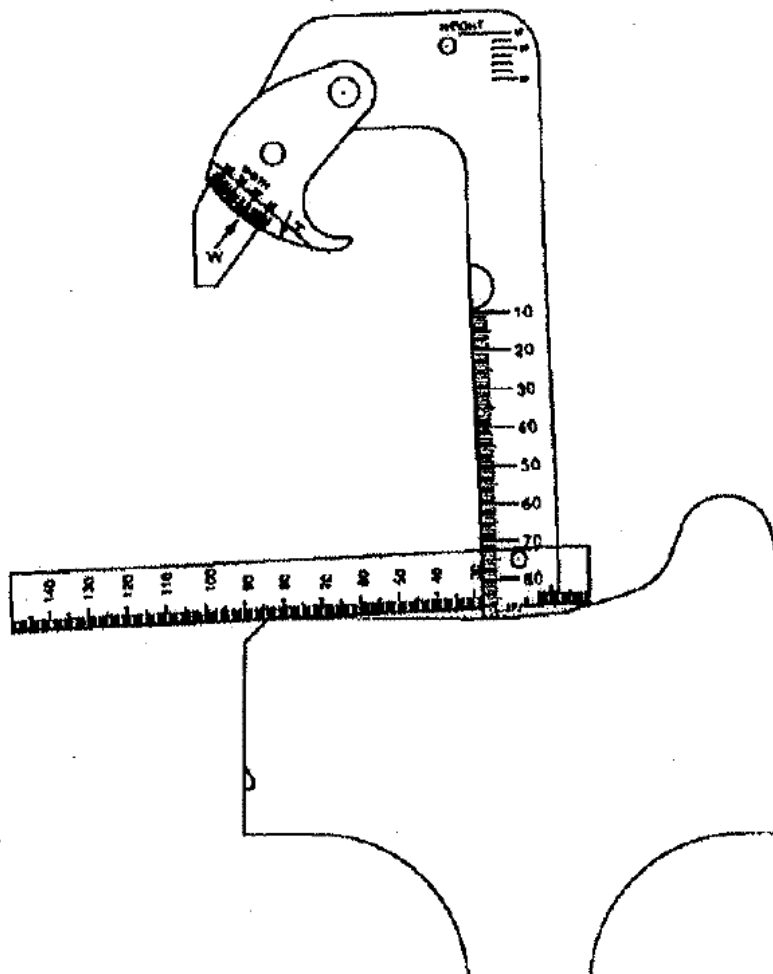

FIG. 7 Measuring tread hollowing.
1. Line up the 90mm mark on the ruler with the outside edge of the wheel tread, as shown in Fig. 7 below.